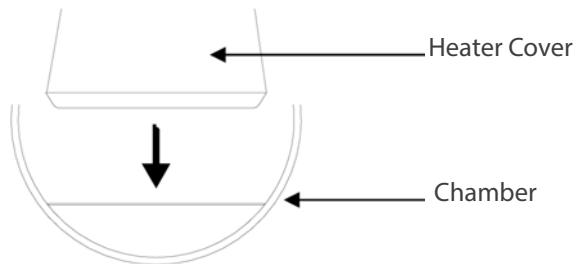

Fig. 5
C. Install the heater cover to the chamber as Figure 5 (standard accessory)